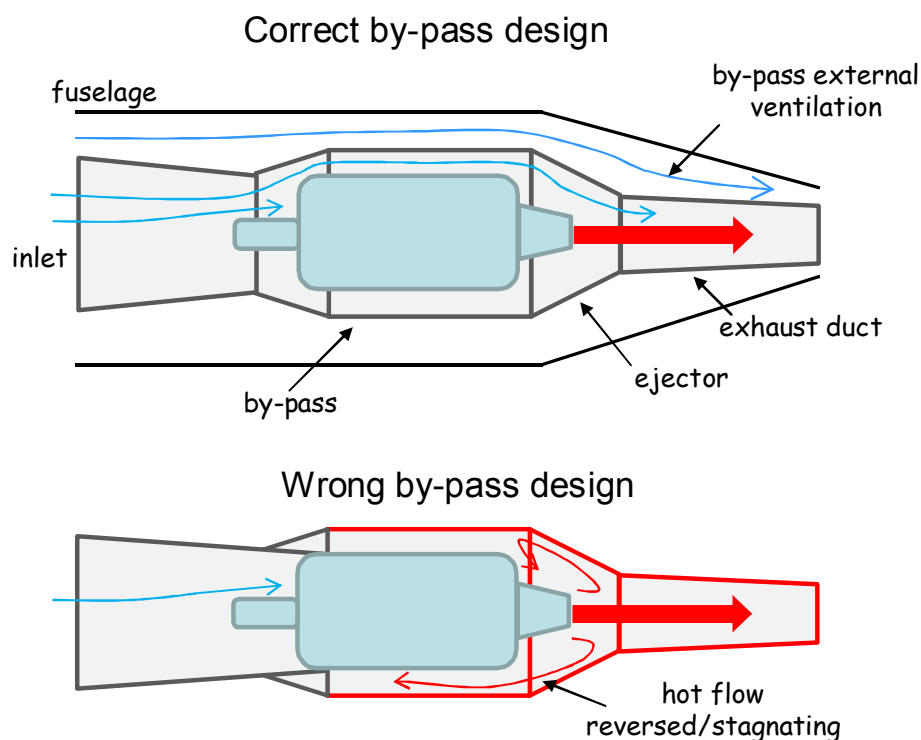

Figure 4 – by-pass installation design guideline
- Sufficient ventilation around the engine and around the bypass must be provided; see Figure 4.